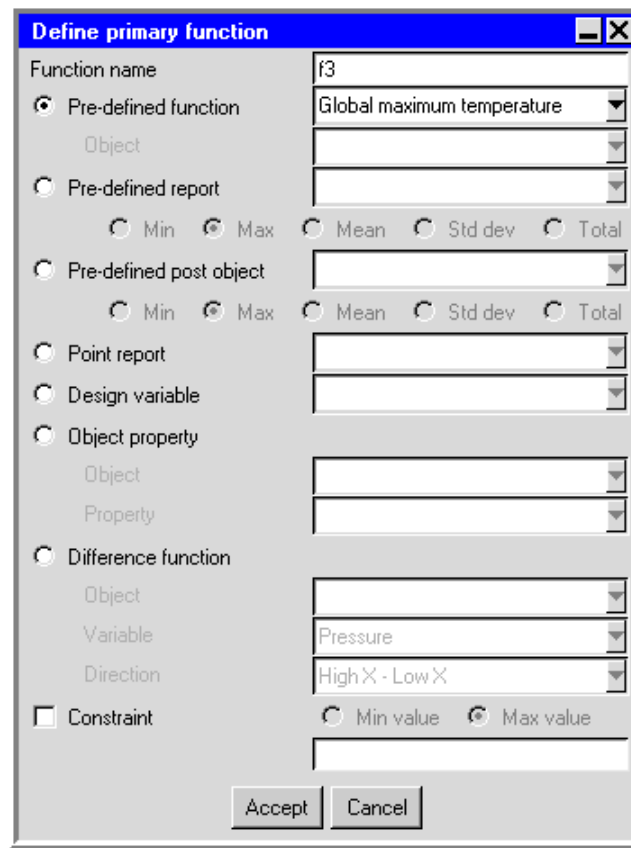

Figure 23.2.4: The Define primary function Panel
- (a) To create a primary function, click the **New** button under **Primary functions**. This will open the Define primary function panel (Figure 23.2.4).